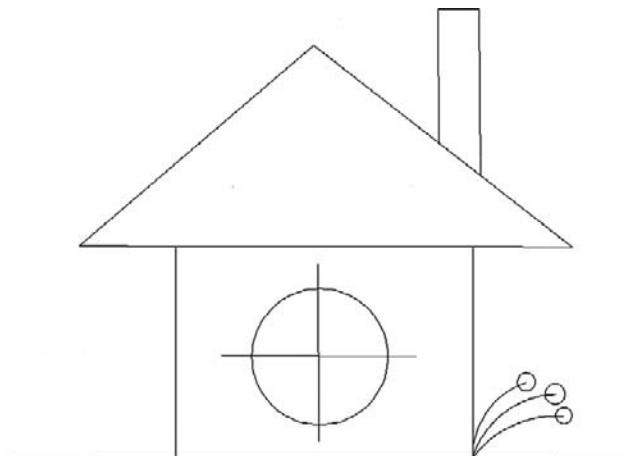

FIGURE 1.20
So, let us put all of this to good use. Create the drawing shown in Figure 1.20. Use the rectangle, line, circle, and arc commands. Do not get caught up trying
Step 2. Select any object from the house in the previous drawing assignment (Figure 1.20) by taking the mouse, positioning it over that object (not in the empty space), and left-clicking once.